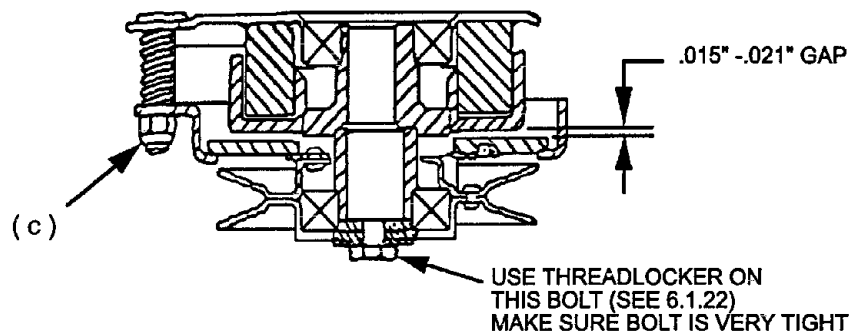

FIG. 12
- c) Place .015-.021 inch feeler gauge through each of the three clutch gap holes. If gap exceeds this range, tighten the three adjusting nuts(C) until the proper gap is obtained (See Figure 12). The three clutch gap holes are located at the "nut side" of the adjusting bolts. The adjusting bolts can be identified by the springs surrounding each bolt.